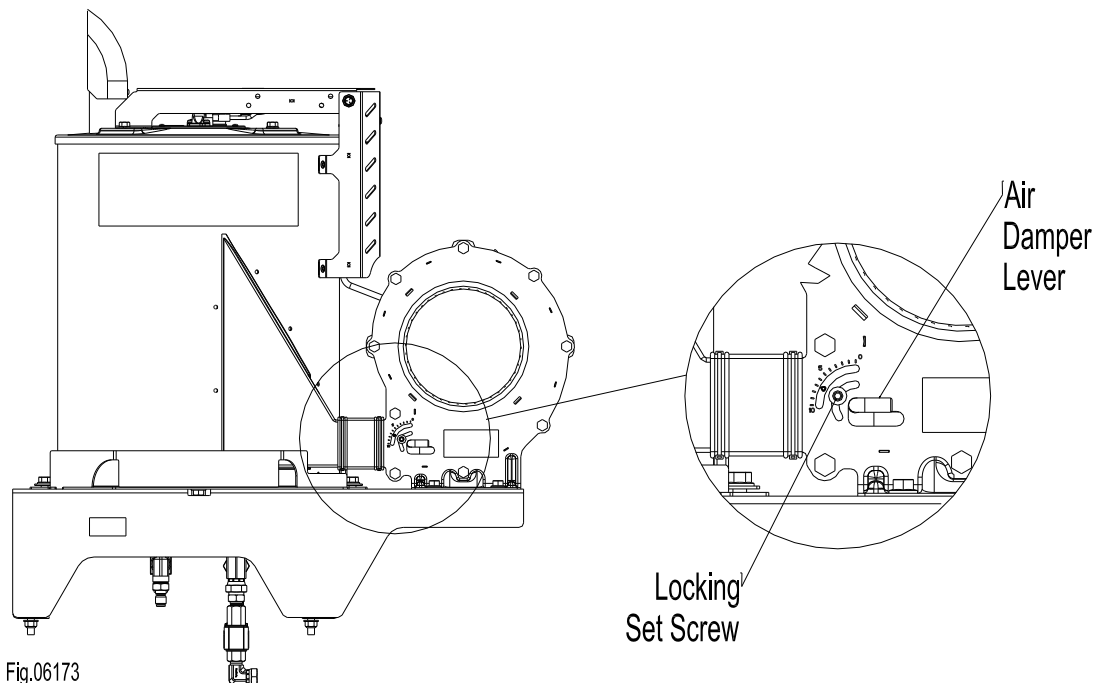

FIGURE 5
- 4) Locate the air damper lever (Figure 5 below). Observe the position of the arrow on the lever relative to the calibration numbers directly to the left. (0 is fully closed and 10 is fully open). (Note: Factory calibration starts out at close to 5-1/2).
- 5) Locate and loosen the locking screw (Figure 5) and rotate the lever counter clockwise until black smoke appears from the burner exhaust vent. Note which number the arrow now points to.